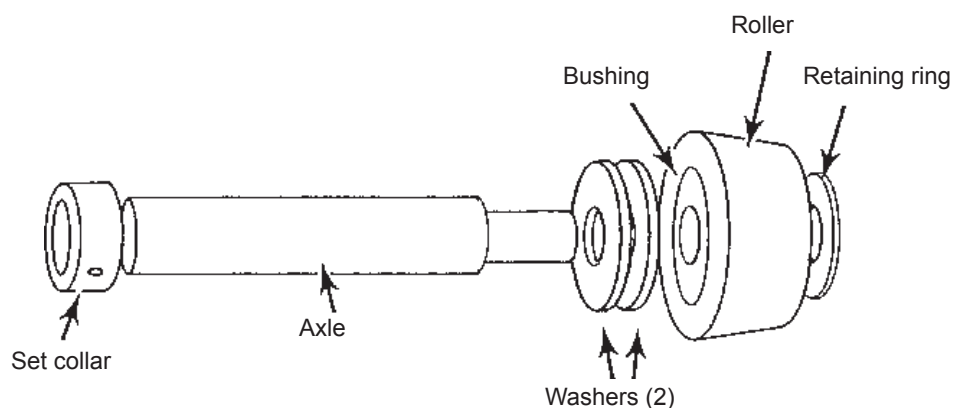

Fig. 1-18 – Roller Assembly
1. The guide wheels are designed to allow the lift platform to move up and down smoothly. Each wheel assembly can be replaced easily if it wears out. See Fig. 1-18.